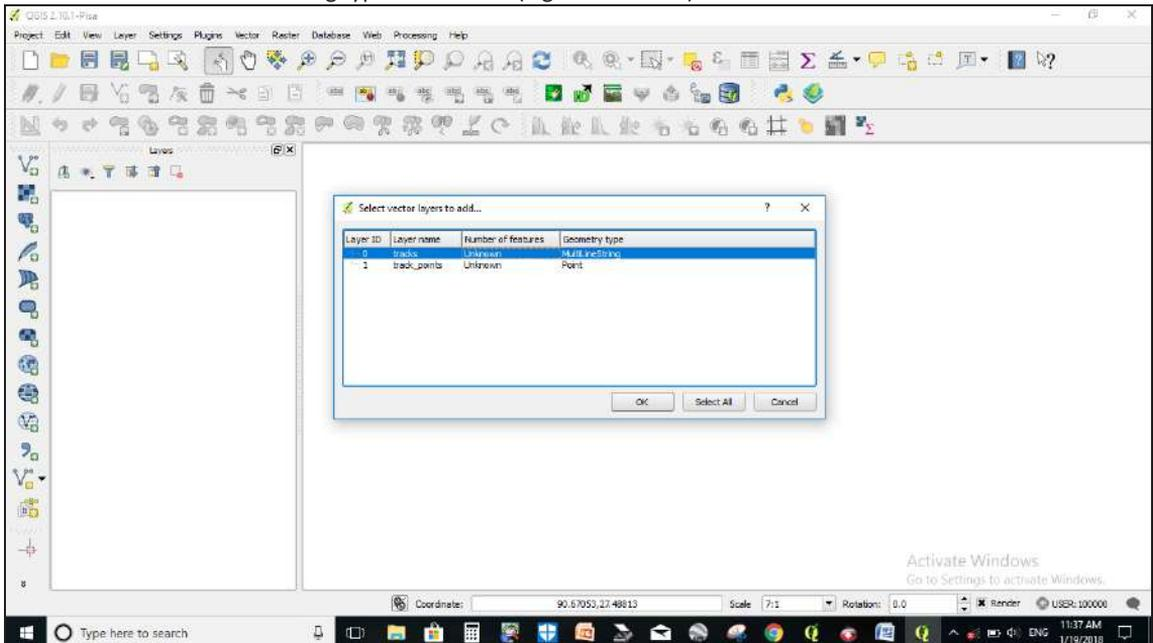

Figure 4b
c. Select tracks multi-string type and click ok (Figure 4b below).